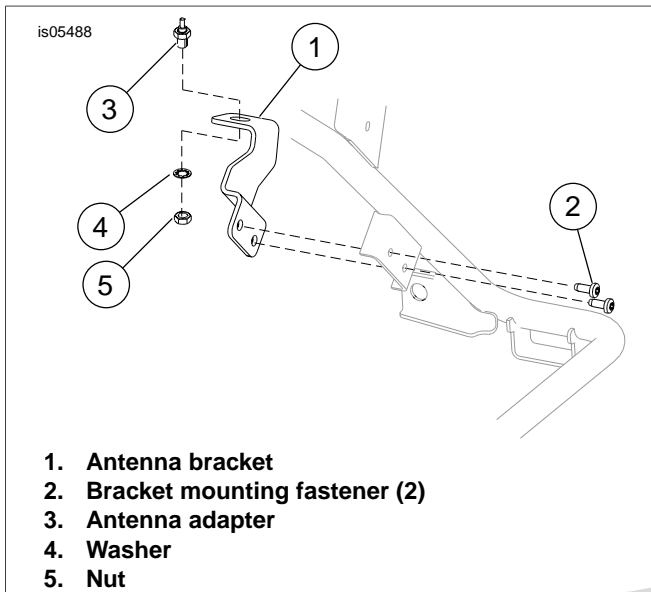
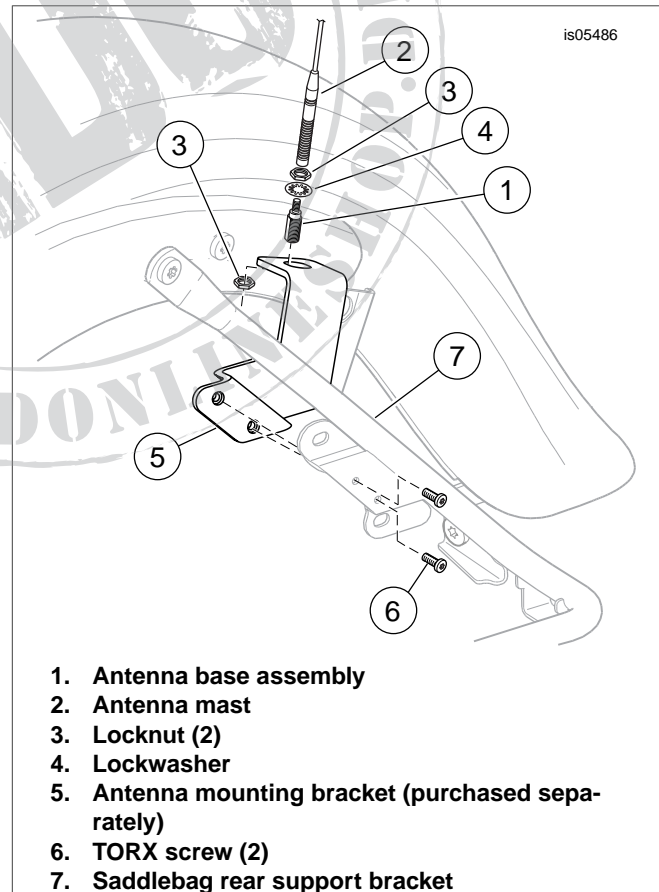
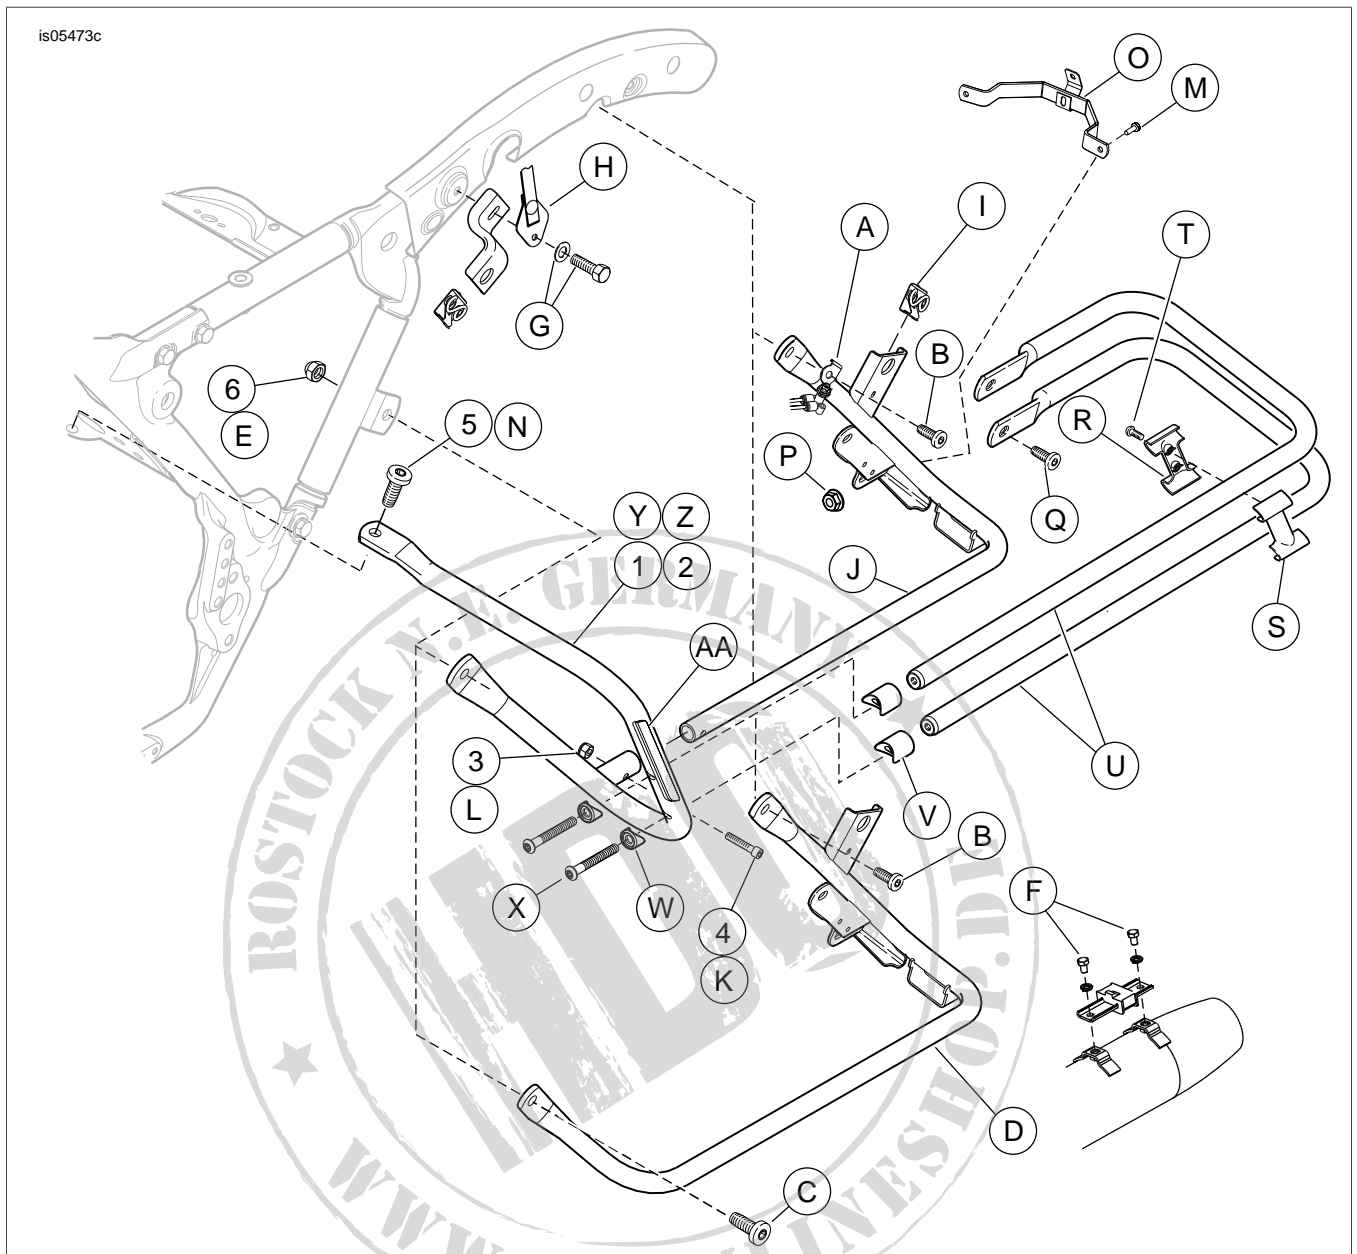

Figure 1. Remove Antenna and Bracket
Figure 2. Antenna Mounting Bracket
Figure 3. Service Parts: Saddlebag Guard Kit (Left Side Shown)
See Figure 3 and Table 1.
2. See Figure 3. Remove grab strap screw and washer (G). Remove grab strap (H). Remove seat following the instructions in the service manual.
1. See Figure 3. Remove the screws (F) securing saddlebag guards to muffler supports.
2. Remove bolt (M) and nut (P). Save bolt (M) for installation. Discard nut (P).
3. Remove screws (B and C) and nut (E). Save screws (B and C) for installation. Discard nut (E).
4. Remove stud receptacle (I) and save for installation.
5. See Figure 1. Remove antenna bracket (1), mounting fasteners (2), antenna mounting nut (5), washer (4) and antenna adapter (3). Save the antenna and hardware, discard the bracket.
6. Remove support (D) and discard.
1. **For FLTR and FLHX Models:** See Figure 3.
- a. Install the rear saddlebag support mounting screw (B) through the air suspension bracket (A) and saddlebag support (J) (purchased separately). Install screw finger-tight.
- b. Install bolt (M) and nut (P) (purchased separately). Tighten finger-tight.
- c. Install stud receptacle (I) into saddlebag support (J).
- d. See Figure 2. Install antenna bracket (purchased separately) with hardware (removed earlier).
2. Install new forward saddlebag guard (1 or 2) onto saddlebag support (J).
3. Install screw (4) and nut (3). Tighten finger-tight.
4. Secure forward saddlebag guard with upper bolt (5) and lower bolt (C) with nut (6). Tighten finger-tight.
5. Tighten the forward guard upper screw (5) to 32-36 ft-lbs (43-49 Nm).
6. Tighten the lower screw (C) and nut (6) to 32-36 ft-lbs (43-49 Nm).
7. Tighten saddlebag support screw (4) and nut (3) to 70-100 **in-lbs** (8-11 Nm).
- a. Tighten the rear saddlebag support mounting screw (B) to 15-20 ft-lbs (20-27 Nm).
- b. Tighten fender bracket screw (M) and nut (P) to 15-20 ft-lbs (20-27 Nm).
- c. Install muffler with screws (F) and remove wooden support. Tighten screws to 96-144 **in-lbs** (10.8-16.3 Nm).